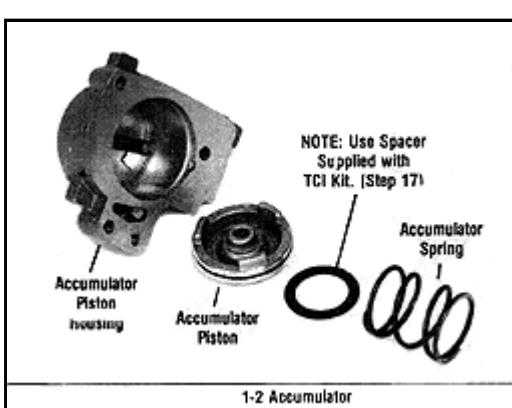

Figure 5
STEP 5 3-4 ACCUMULATOR ASSEMBLY: (See Figure 5) Install the thick spacer supplied (silver) into the accumulator piston with some grease to hold it into place. Install the 3-4 piston pin into the case. Install the accumulator piston/spacer assembly into the case. Install the stock spring against the spacer.